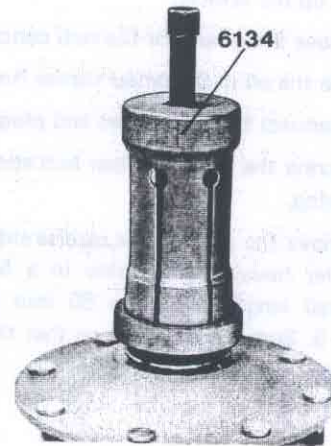
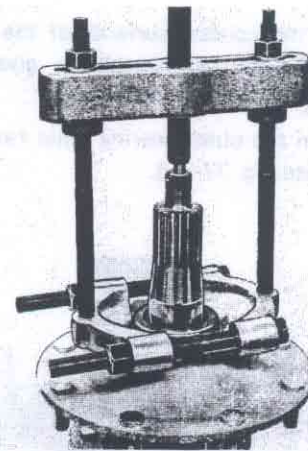

Fig. 77-11. Removing the outer bearing inner ring
Fig. 77-19. Removing the wear ring
4. Pull off the outer bearing inner ring with puller 6134, see Fig. 77-11.
- Check the sealing surfaces of the sealing rings. If the sealing surface on the stub axle is damaged, replace the stub axle. If the surface on the wear ring is damaged, replace the wear ring as follows: Pull loose the outer bearing inner ring with puller 6134, Fig. 77-11. Pull loose the wear ring with Kukko standard jackknife 15-17, Fig. 77-19. If the sealing surface on the gear wheel is damaged, replace the gear wheel.